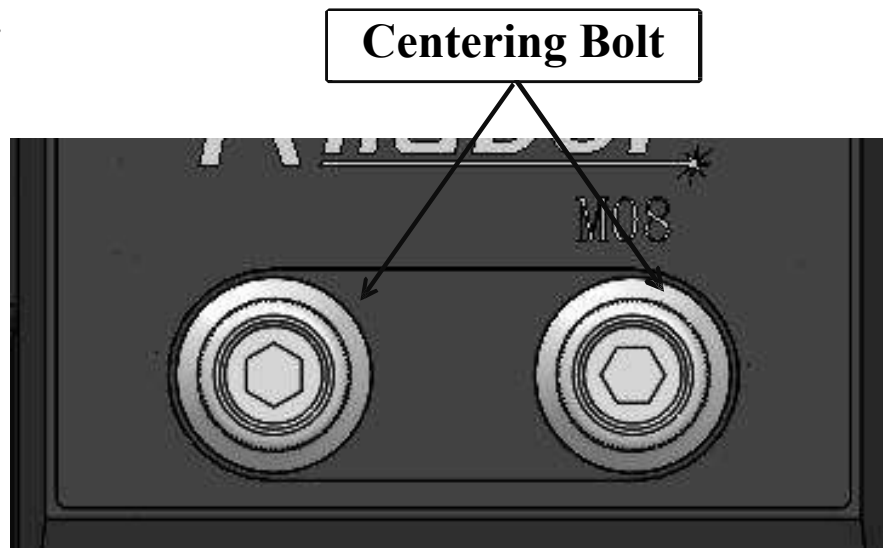

Figure 2.2
- ① The laser beam must be kept in the center of the nozzle to achieve good joint-cutting effect. When it deviates from the center of the nozzle, it needs to be adjusted through the beam centering module, as shown in Figure 2.2 below.